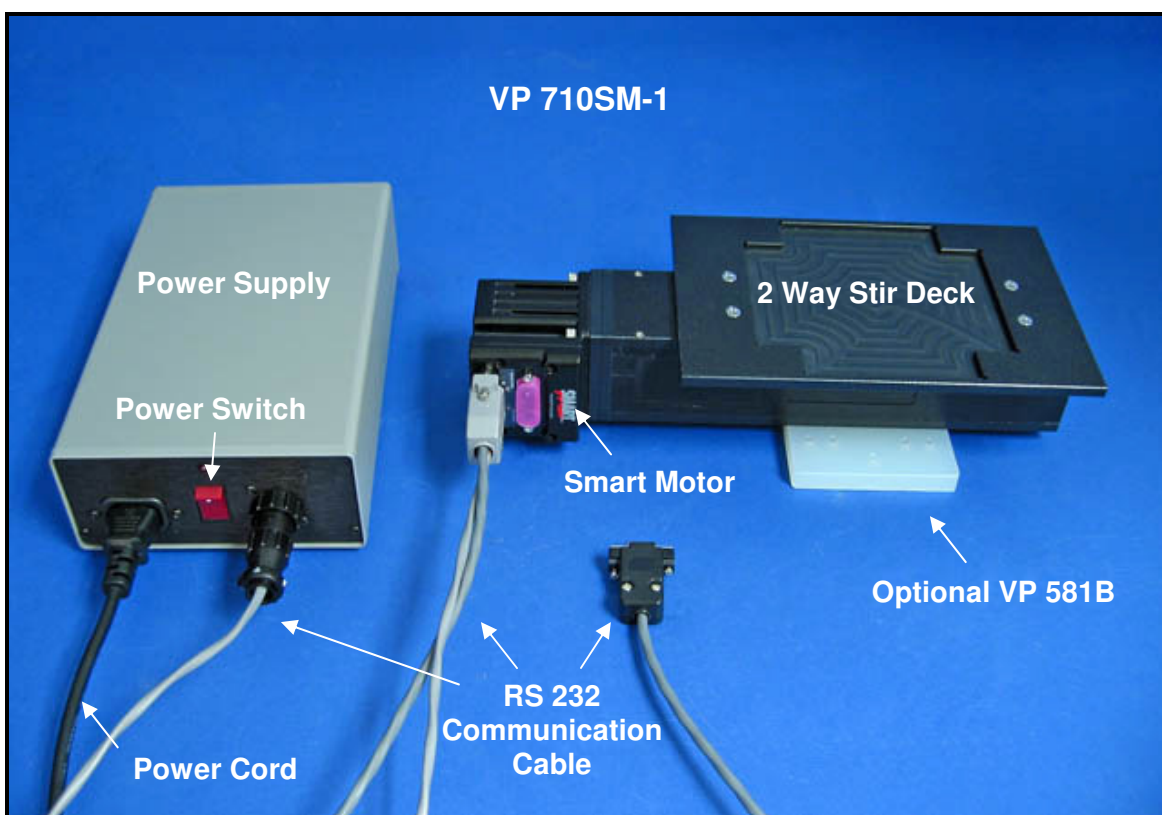

Figure 1. Parts of a VP 710 Series Smart Motor Magnetic Tumble Stirrer, VP 71SM-1, shown with optional 2-Way Stir Deck.
2. Connect the round 2-pin DC cord of the RS-232 Communication Cable into the Power Supply. Connect the 5-pin, 2-hole plug of the Communication Cable into Smart Motor as shown in Figure 1. Connect the RS-232 plug of the Communication Cable to the computer's serial port and tighten attachment screws. This port is usually "com1" by default.